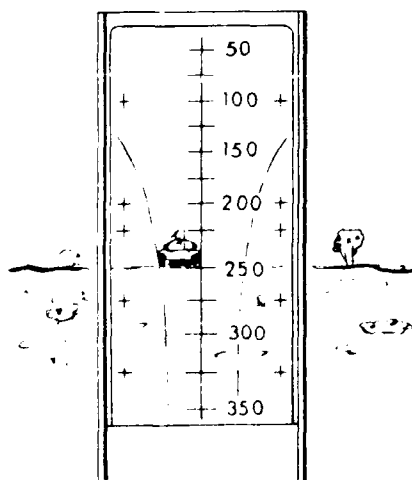
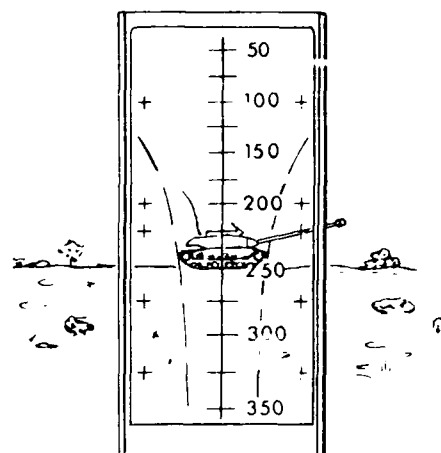
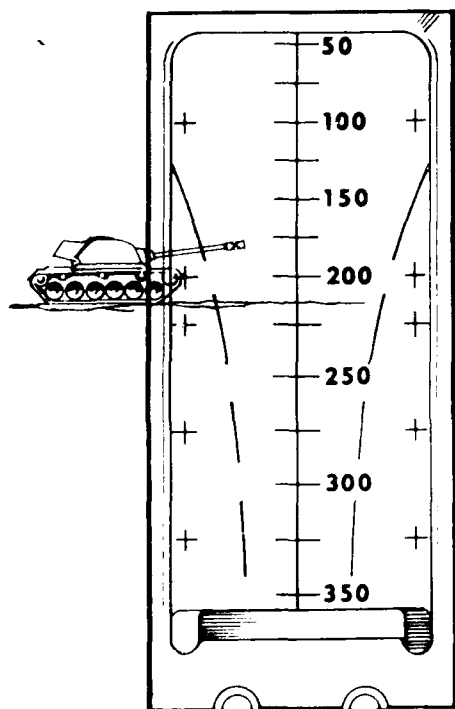

Figure 5-65.—Head on at 250 meters.
Figure 5-66.—Side view at 250 meters.
Figure 5-68.—Moving left to right 15 mph.
The stadia lines on the front sight are used to obtain an accurate estimation of the range to the target. The use of these lines is based on two generally true premises. First most tanks are approximately the same length. Second, most tanks are approximately twice as long as they are wide. Range may be estimated for a head-on (or tail-on) vehicle by placing the tank between the vertical range line of the sight and one of the stadia lines so that the vehicle just fits between these lines. The range is then read from the sight reticle. In figure 5-65, note that the tank just fits between the vertical line and the left stadia line at the 250-meter range line. For a tank moving at right angles (side view) to the launcher, place the vehicle between the right and left stadia lines and read the range. In figure 5-66 the tank just fits between the stadia lines at the 250-meter range line.
3. *Targets moving directly across the gunner's front.* With a target moving perpendicular to the gunner's line of sight, the gunner must estimate the range to the target (fig. 5-66) and the speed at which the target is moving. The sight reticle should be placed on the target so that the vertical range line is always in *front* of the target's direction of travel. With the correct range marking lined up on the target, the launcher must be moved horizontally in the direction of the target's movement so that the lead marker (cross) opposite the range is lined up on the forward section of the target (fig. 5-68). With this line of aim, and the target moving at 15 mph at a distance less than 200 meters, the rocket should strike the rear third of the target. If the target is at a distance greater than 200 meters, the gunner should estimate additional lead. The lead marks on the sight reticle